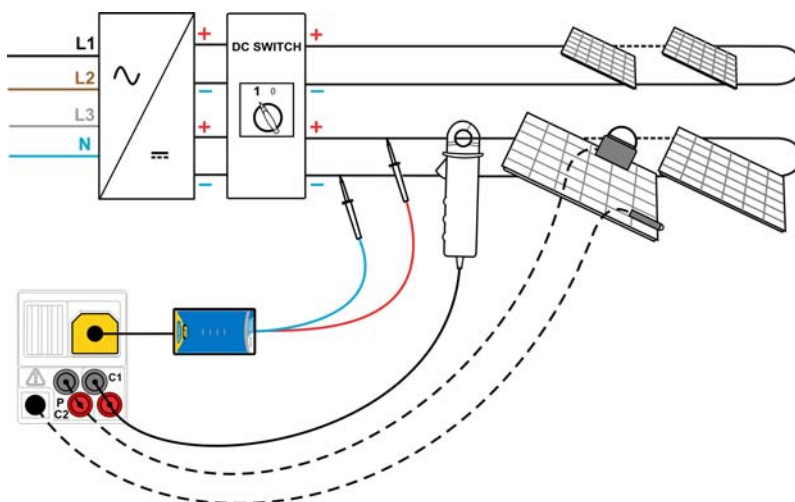

Figure 6.10: PV panel test
- ❑ **Connect** the PV system to be tested (see figure 6.10).